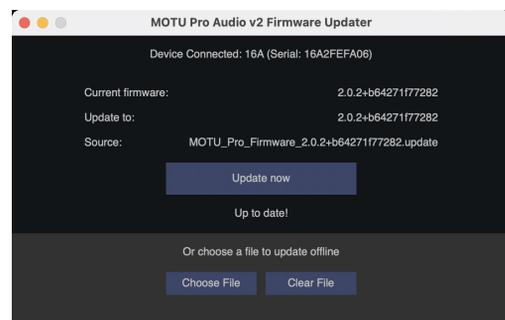

Figure 6-14: The 848 Firmware Updater app.
☞ This step requires that the unit already has firmware version 2.1.5 or later. If not, use the Firmware Updater app (Figure 6-14 on page 60), accessed from the File menu.
- 1 Choose *File menu > Open Firmware Updater* to launch the updater app (Figure 6-14).
- 3 Once the firmware image is loaded, click the *Update Now* button (Figure 6-14).